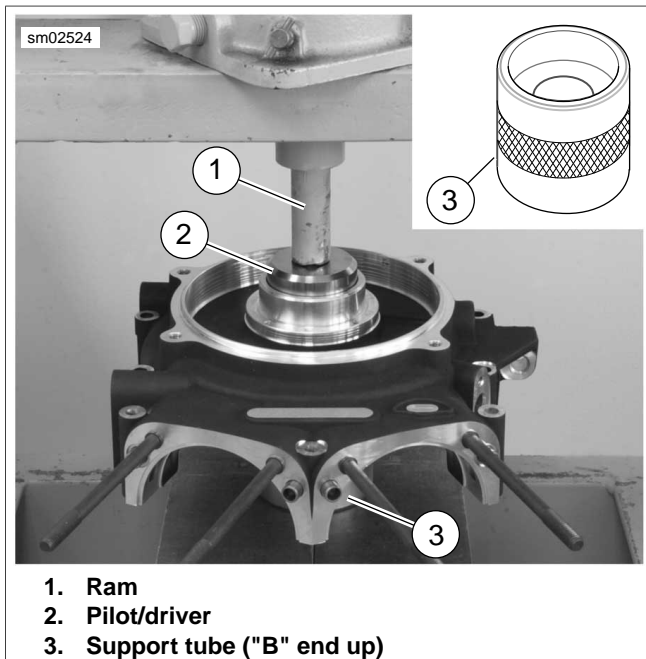

Figure 3-130. Left Main Bearing Removal
7. See Figure 3-130. Place support tube (3) on hydraulic press table with "B" end up. Note that sides of support tube are stamped "A" and "B" to verify proper orientation.
9. Slide pilot/driver (2) through main bearing into support tube (3).
10. If the ram of the press is wider than the head of pilot/driver (2), place a suitable press plug on top of pilot/driver (2).
11. Center pilot/driver under ram (1) of press. Apply pressure to pilot/driver until bearing is free.